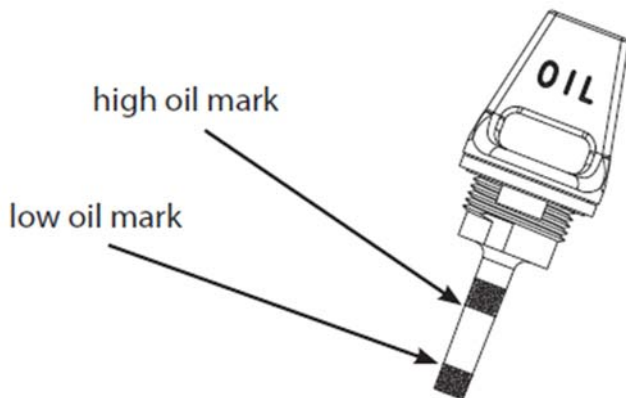

Figure 5
5. Unscrew and check dipstick. If no oil shows on the dipstick, refill so that the oil level appears between the low and high marks on the dipstick (Figure 5).